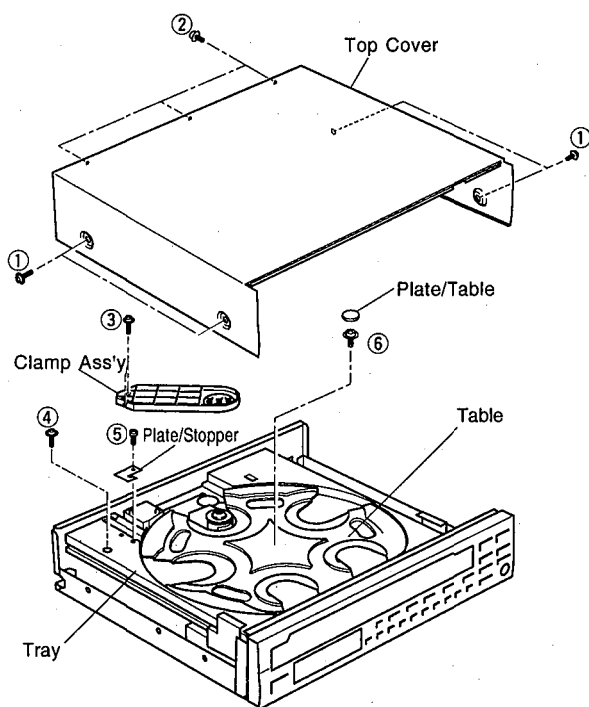

Fig. 1
- Remove 4 screws (①) and also 3 screws (②) as shown in Fig. 1.
- Remove 2 screws (③) as shown in Fig. 1.
- Remove 1 screw (④) as shown in Fig. 1.
- Remove 1 screw (⑤) and then remove the Plate/Stopper as shown in Fig. 1.
- Remove the Plate/Table as shown in Fig. 1.
- Remove 1 screw (⑥) and then take off the Table as shown in Fig. 1.